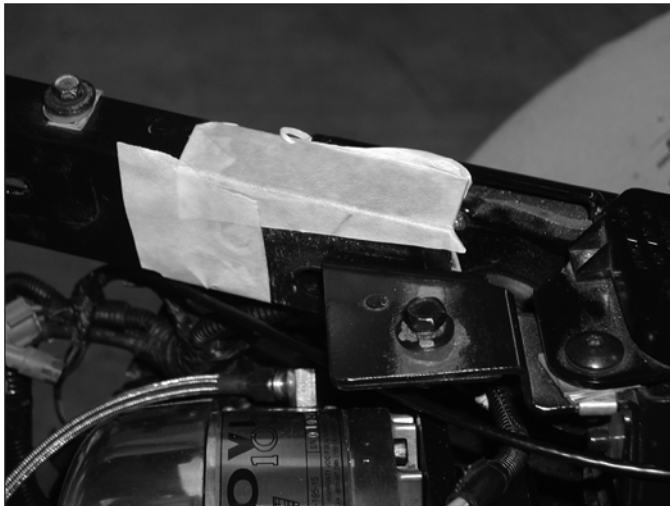

Fig. 2-5
- F. Using masking tape, mark the edges of the support brace that the body side panel was bolted to. This will help you in the re-assembly. (See *Fig. 2-5*.)